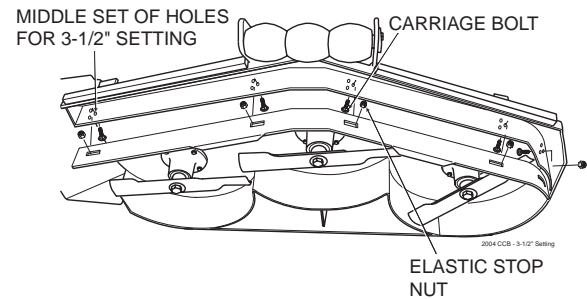

Figure 11. 3-1/2" Custom-Cut Baffle Position
- B. 3-1/2" Position (factory setting for Advantage cutter decks) - baffle is installed using the middle set of holes on the front baffle welded inside the cutter deck. (See Figure 11). For general purpose cutting, place the Custom Cut Baffle in the 3-1/2" position. This gives the best mix of cutting performance in all types of grass.